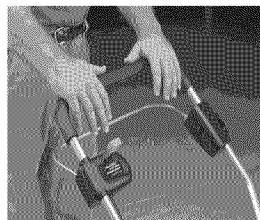

Figure 27 - Release Bail Handle
1. Release the bail handle to stop mower motor (see Figure 27).